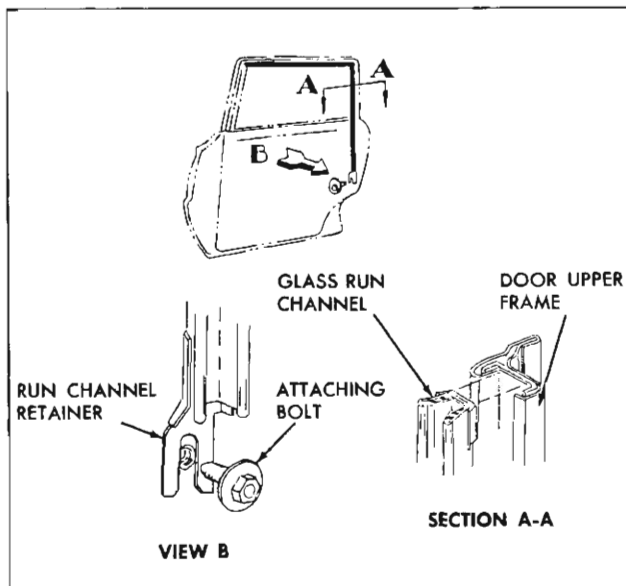

Fig. 49—Rear Door Window Glass Run Channel
2. On "35," "45" and "69" styles, through large access hole, remove screw securing lower end of glass run channel at door lock pillar and raise end of channel to expose lock assembly (fig. 49).
- On 35-45-69 styles, remove screw securing lower end of glass run channel at door hinge pillar to gain access to spring clip securing rod to lock (fig. 49).
- On 35-45-69 styles, remove glass run channel lower attaching screw to gain access to spring clip securing rod to lock (fig. 49).